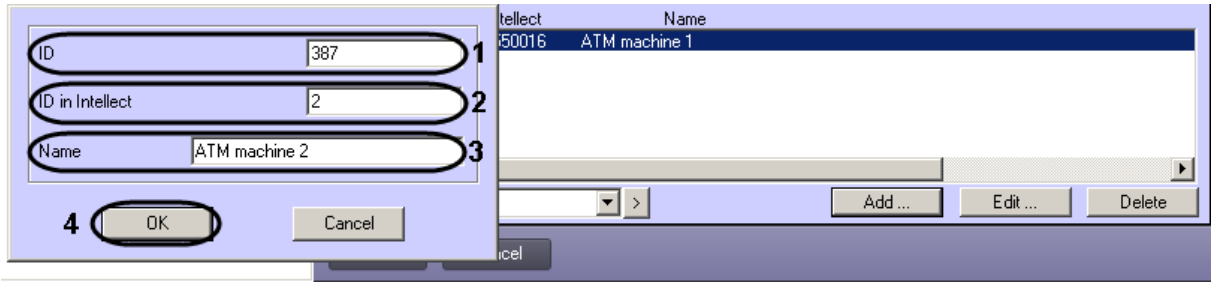

Fig. 7.3—2 Adding an ATM
- 3.2. The **ID** field must be the same as the **ID** field in the *ATM-Intellect Pro* settings (see Fig. 7.3—2, 1).
- 3.3. The fields **ID in Intellect** (see Fig. 7.3—2, 2) and **Name** (see Fig. 7.3—2, 3) must match the **Number** and **Name** fields of the corresponding **ATM machine** object.
- 3.4. Press **OK** (see Fig. 7.3—2, 4).